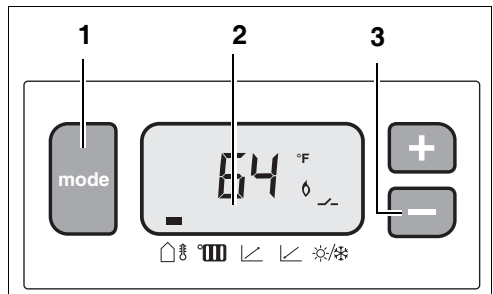

Fig. 10 Display view
Use the "Mode" key (fig. 10, pos. 1) to go through the various menu items
" "; a line (fig. 10, pos. 2) on the display indicates the active menu item.
The value of a menu item which can be set will flash. The value can then be changed using the plus "+" and minus "-" (fig. 10, pos. 3) keys. The settings will not be lost if there is a power outage.